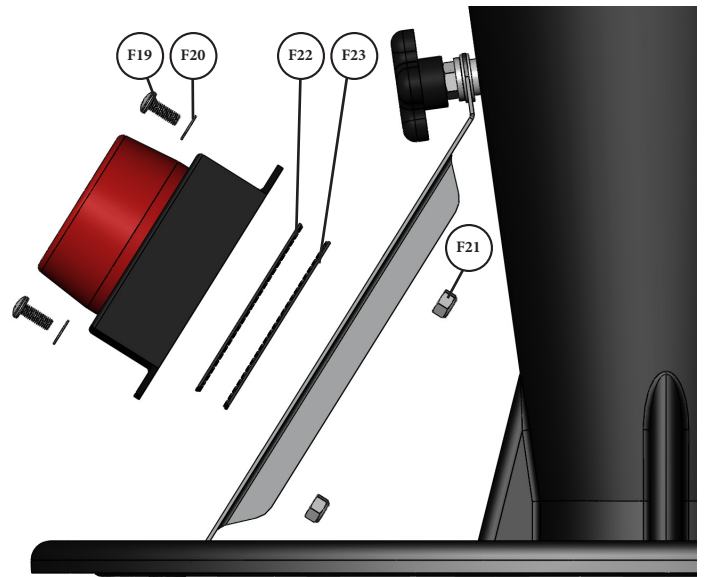

FIG. 16
Mount the Dust Sentry strobe light (M) centered between the two holes of the Strut (F7) using the hook and loop tape (F22 and F23). Secure onto the Strut (F7) through the two holes with a Phillips Drive Pan Head Screw (F19), Washer (F20), and Nylock Nut (F21). Plug in the Dust Sentry (M) to the connecting adapter found on the Motor Assembly (A) [FIG. 16].